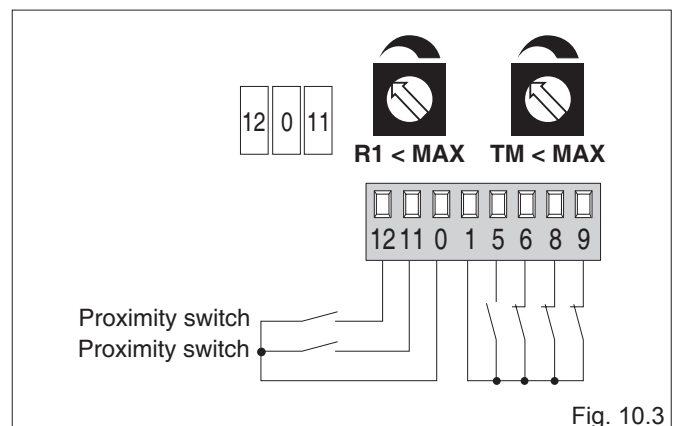

Fig. 10.3
- (Fig. 10.3) The leaf pushes onto mechanical stops and reverses on obstacles.